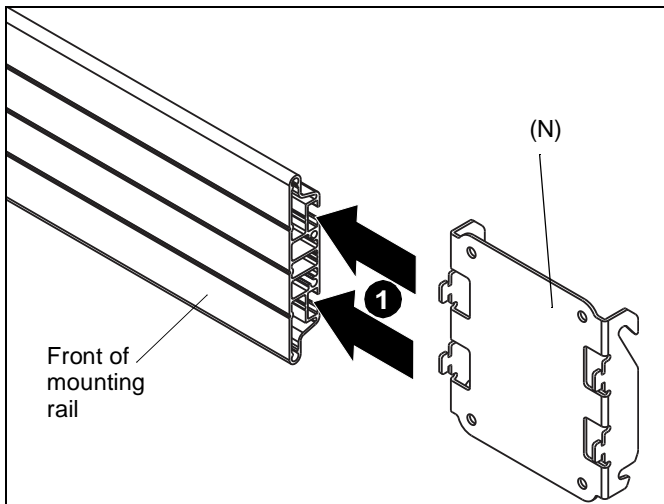

Figure 5
1. Slide the hook plate (N) into mounting rail. (See Figure 5)